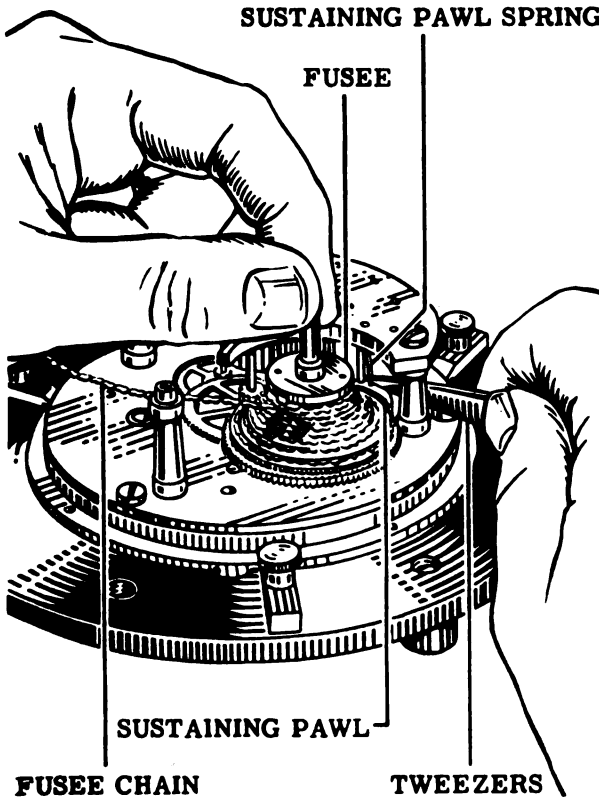

Figure 74
34. Hold sustaining pawl aside and place fusee assembly in position. See Fig. 74.